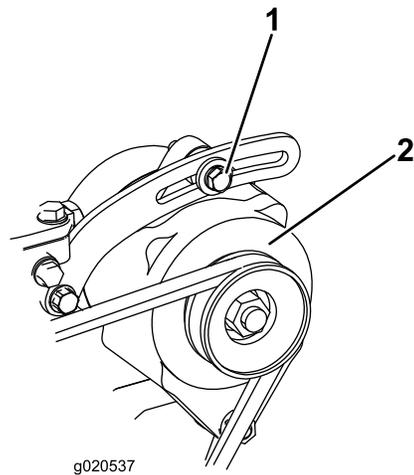

Figure 48
Check the condition and tension of the belt (Figure 48) after every 100 operating hours.
2. If the deflection is not 10 mm (3/8 inch), loosen the alternator mounting bolts (Figure 48). Increase or decrease the alternator belt tension and tighten the bolts. Check the deflection of the belt again to ensure that the tension is correct.